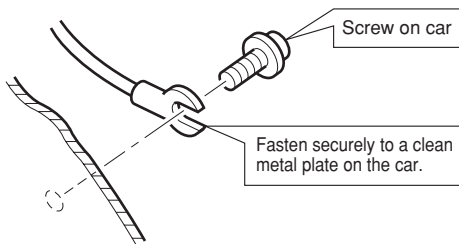

Figure 10
3. When connecting the ground lead, fasten the ground lead (black) securely to a clean metal plate on the car. (Figure 10)